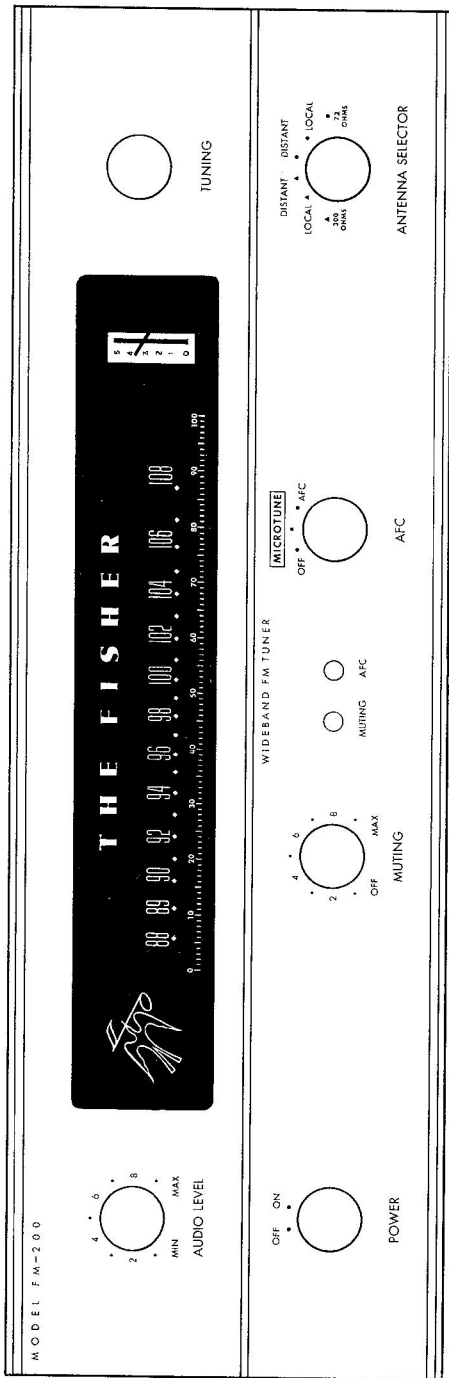

Figure 1. Front Panel of the FM-200
1. Connect the FM antenna to the two screw terminals marked FM ANT on the rear panel as shown in Figure 1. All 300-ohm antennas, including the laborator-matched folded dipole supplied with the *FM-200*, may be installed by connecting
Your FISHER *FM-200* is now ready for operation. In order for it to operate properly, however, several initial adjustments must be made, for the best possible results, we recommend that you follow the procedure given in this section exactly, and then carefully read the information concerning the front panel controls (see Figure 1).